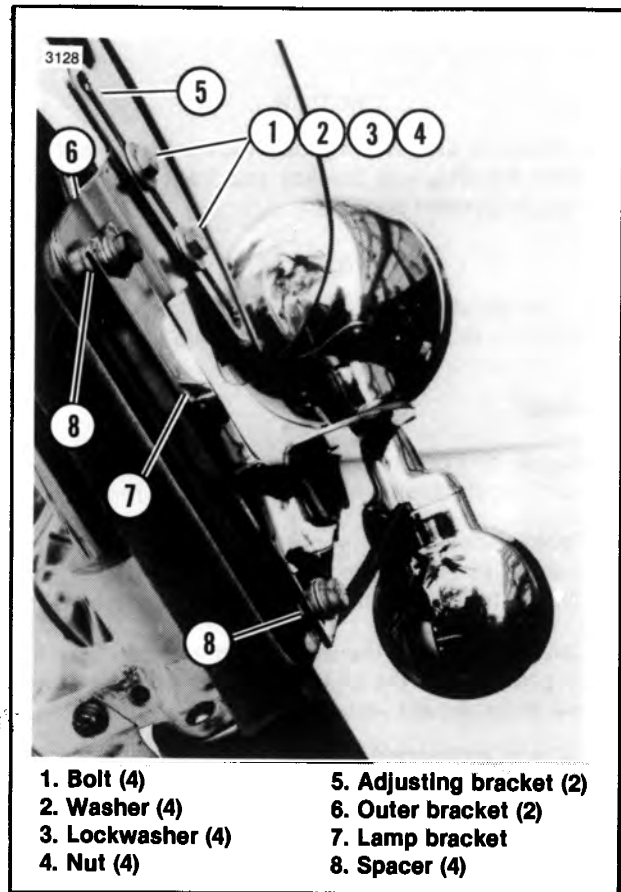

Figure 2-154B. Windshield Installation — FLHS
1. See Figure 2-154B.
2. Remove bolts (1), washers (2), lockwashers (3) and nuts (4).
1. See Figure 2-154B. Align slots in windshield left and right side adjusting brackets (5) with holes in outer brackets (6).
2. Secure the windshield adjusting brackets to the outer brackets (6) with bolts, washers, lockwashers and nuts as shown.